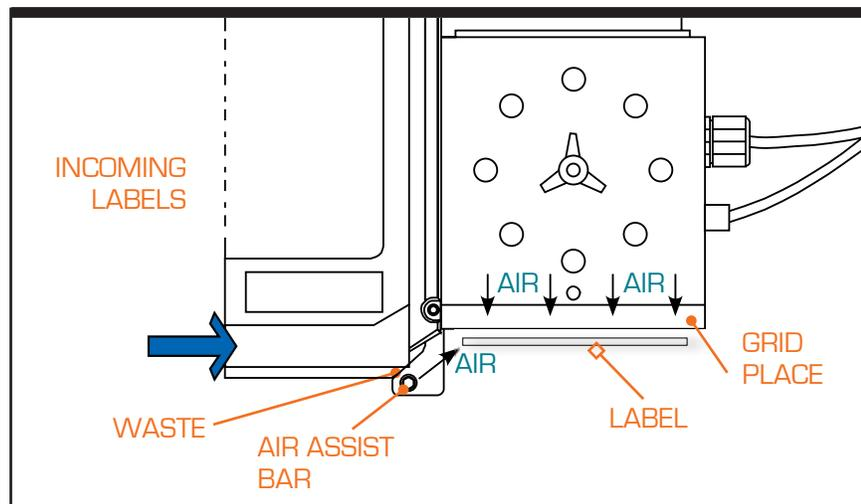
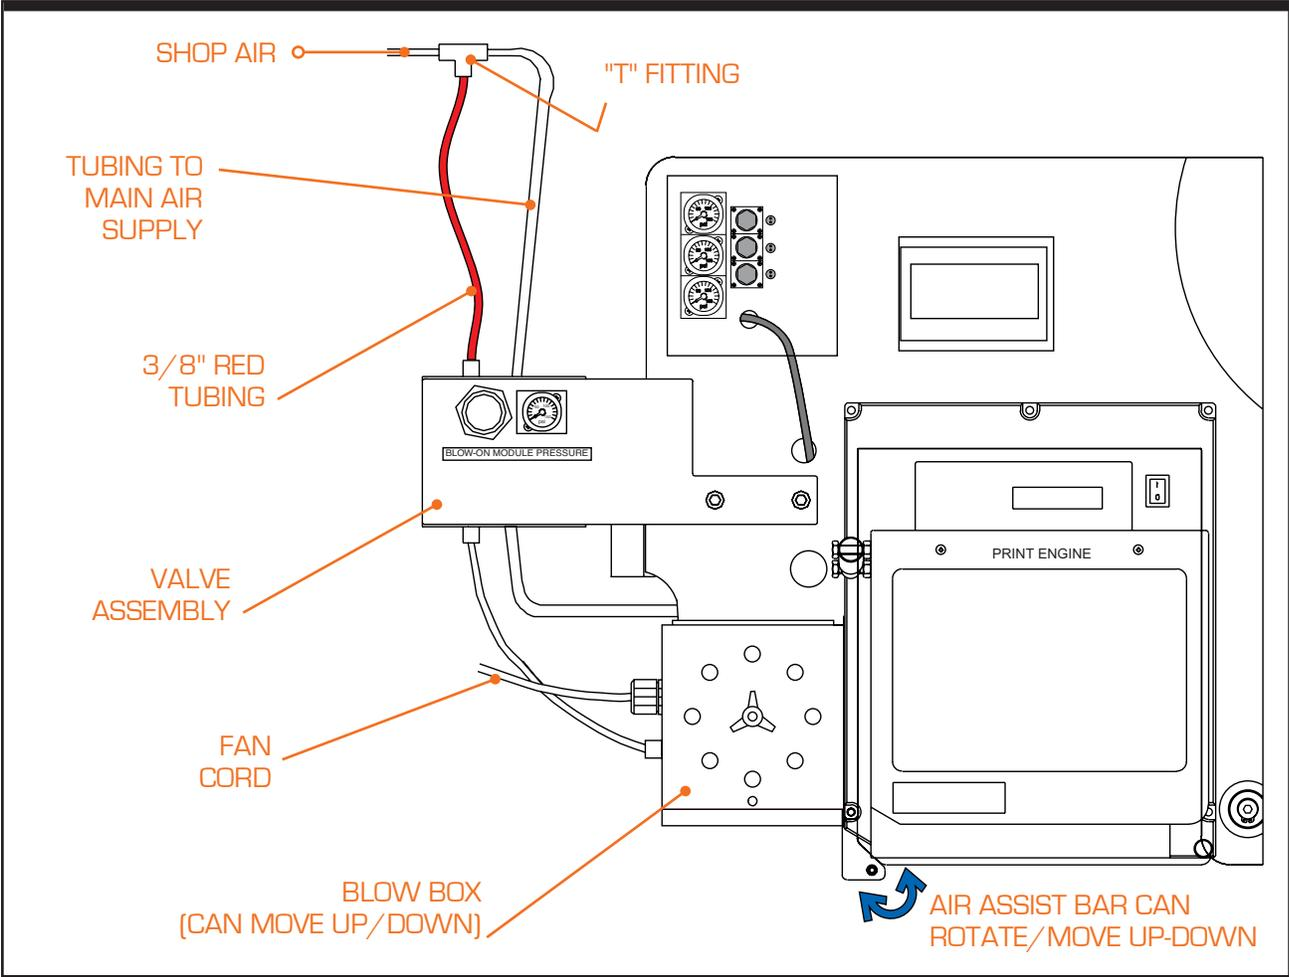
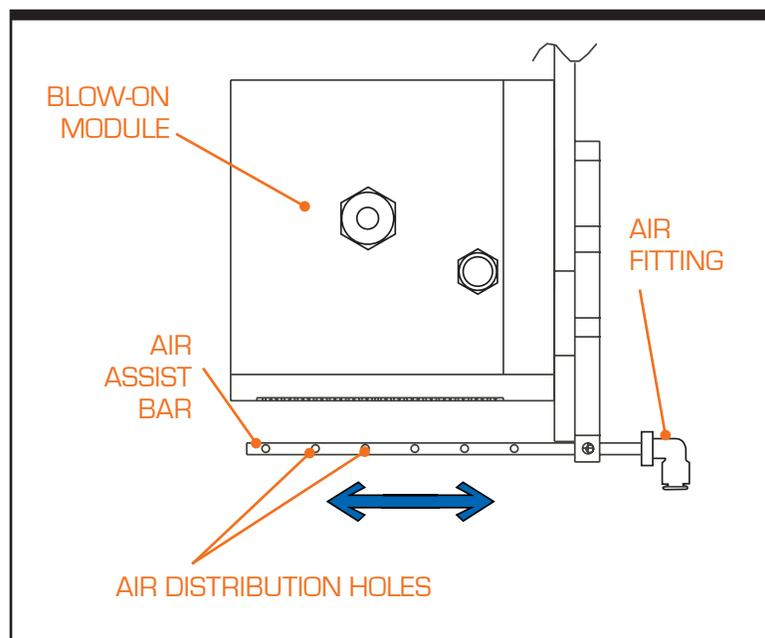

Figure 5-9. Blow Box
Figure 5-10. Blow-On Module Assembly
Figure 5-12. Air Assist Bar for Blow-On Module
- Step 2. Install Blow-On Module.** Install the Blow-On Module to the labeler with the two M6 x 30mm long socket head cap screws, flat washers and lock washers provided (refer to Figure 5-9 and Figure 5-10). The flat washers go against the housing and the lock washers go against the socket head cap screw. The Blow-On module grid plate should be level with the print engine peel plate.
- Step 3. Connect Fan.** Connect the fan cord to the fan receptacle (110V Auxiliary power) on the module interface panel (refer to Figure 5-12).
- Step 4. Install Valve Assembly.** Install the valve assembly with the M10 x 20mm long socket head cap screws and flat washers provided. This assembly has the tag labeled "Blow-On Module Pressure" (refer to Figure 5-10).
- Step 5. Connect Red Tubing.** Connect the red 3/8" diameter tubing from the Blow-On Module to the port on the valve assembly labeled "Blow-On Module Pressure" (refer to Figure 5-10).
- Step 6. Connect Air.** The main air hose will require a tee to supply the Blow-On Module with air. The tee fitting and hose are in the kit. Disconnect the 3/8" diameter air line from the Main Air port, insert it into the open port on the tee fitting, then insert the short hose from the tee fitting into the Main Air port on the labeler (refer to Figure 5-10).
Feed a Label Once the Blow Box position is initially set, it is now time to feed a label onto the grid plate. Download a formatted label into the printer. The goal is for the label to feed straight from the peeler bar onto the grid plate without any flapping. You may need to adjust the Blow Box assembly up or down using the mounting slots in the housing (refer to Figure 5-10).
Air Assist Tube The air assist tube's flow is used to help the transition of the label from the peeler plate to the grid plate. The air assist tube can be rotated (refer to Figure 5-10) or adjusted in or out (refer to Figure 5-12). Loosen the set screw located under the housing before rotating the air assist bar. The air assist can move up or down after loosening the bolts attaching the mounting bracket to the plate housing. The angle of the air assist tube is generally set upwards toward the front of the vacuum grid. The air holes in the air assist